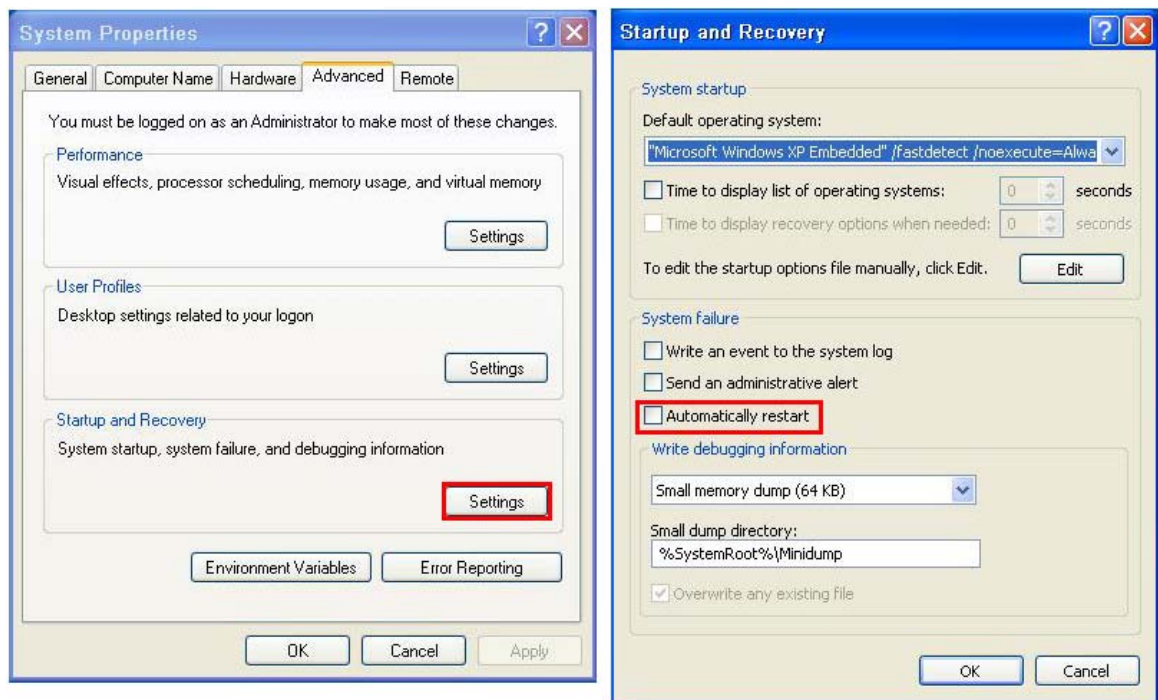

Figure B-23: Disable Automatically Restart
- Step 3:** **Disable the automatically restart function before creating the factory default image.** Go to: My Computer → Properties → Advanced. Click the Settings button of Startup and Recovery. Deselect “Automatically restart”. Click OK to save the settings and exit. (See **Figure B-23**)